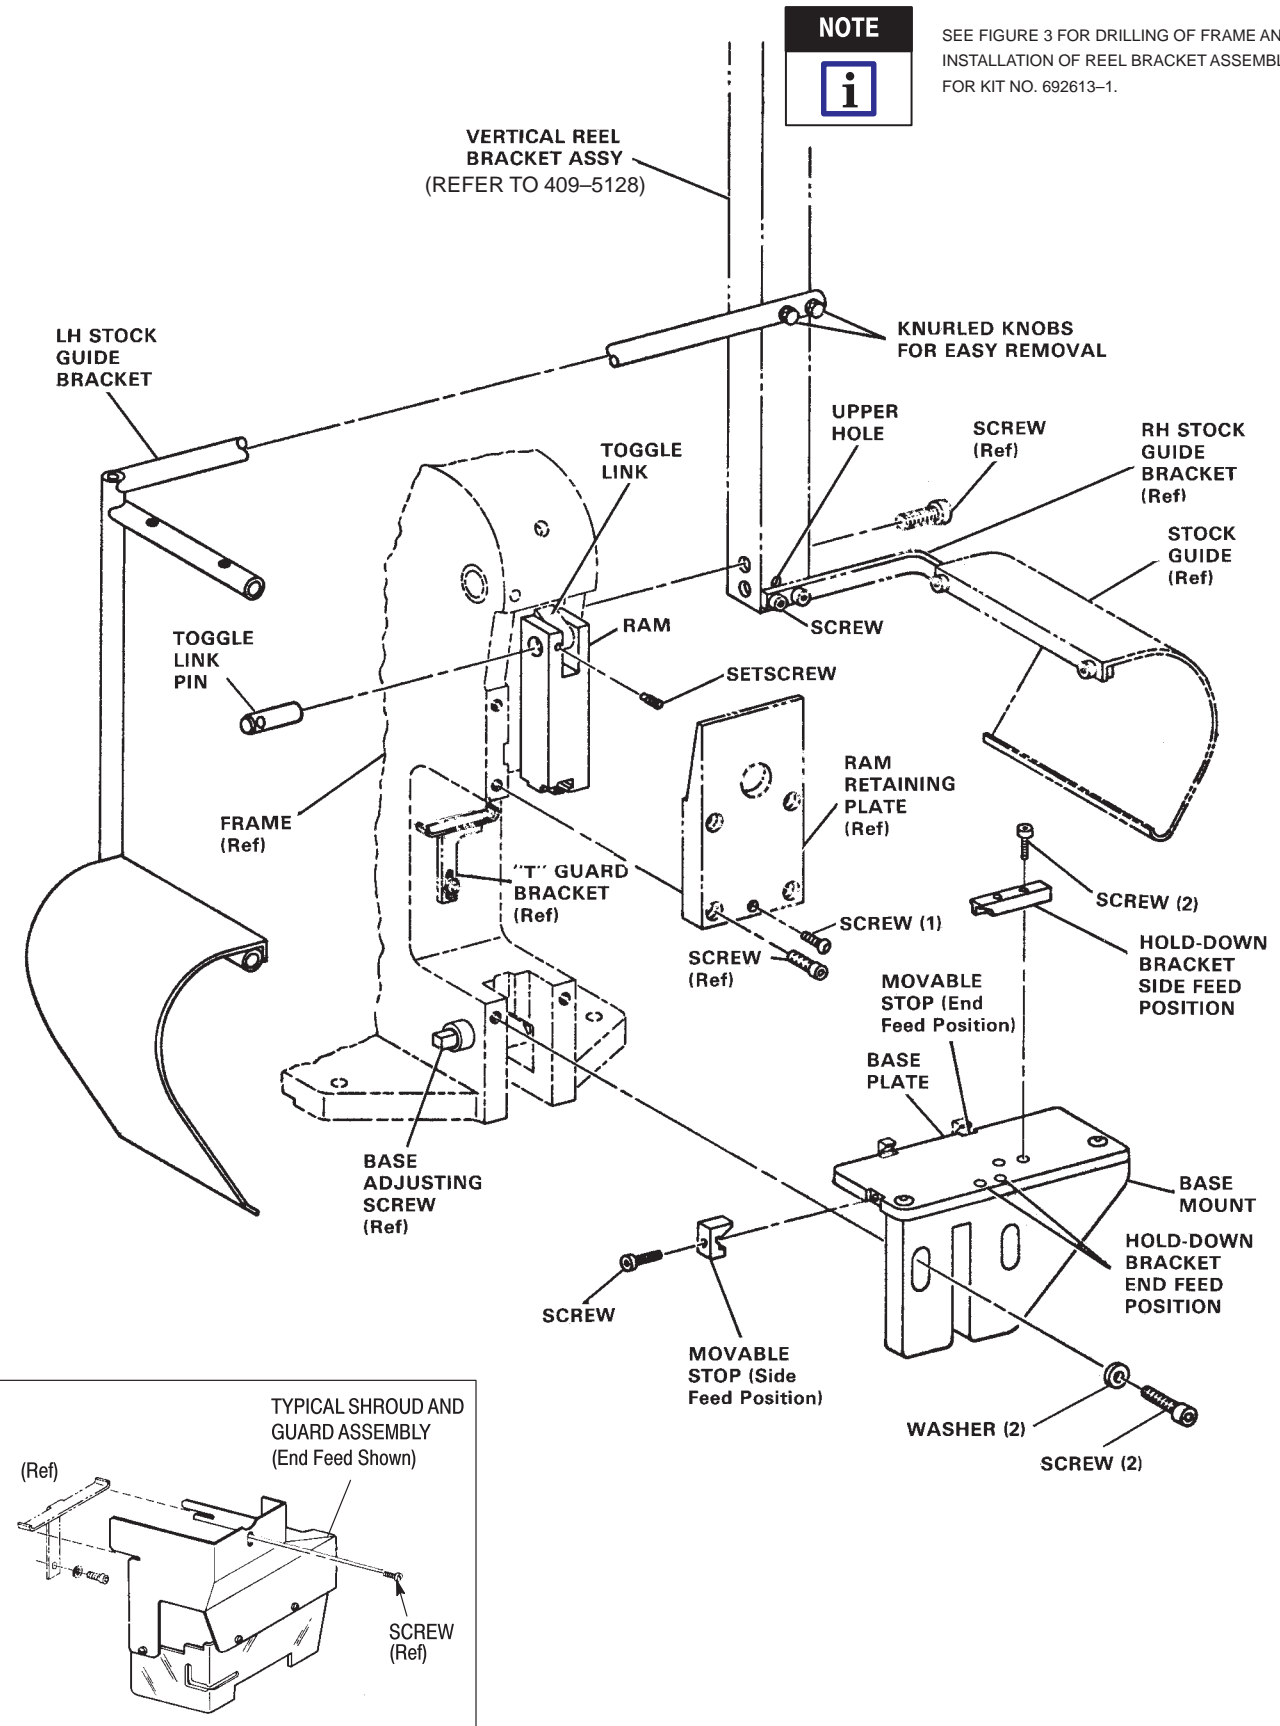

Figure 2
### 2.1. Kit No. 690675-2 Installation (Figure 2)
1. Install the movable stop on the back of the base mount for the end feed applicator or on the left end for the side feed applicator, as shown in Figure 2.
7. Install the side feed or end feed shroud and guard assembly, for the type of applicator installed, as shown in Figure 2.